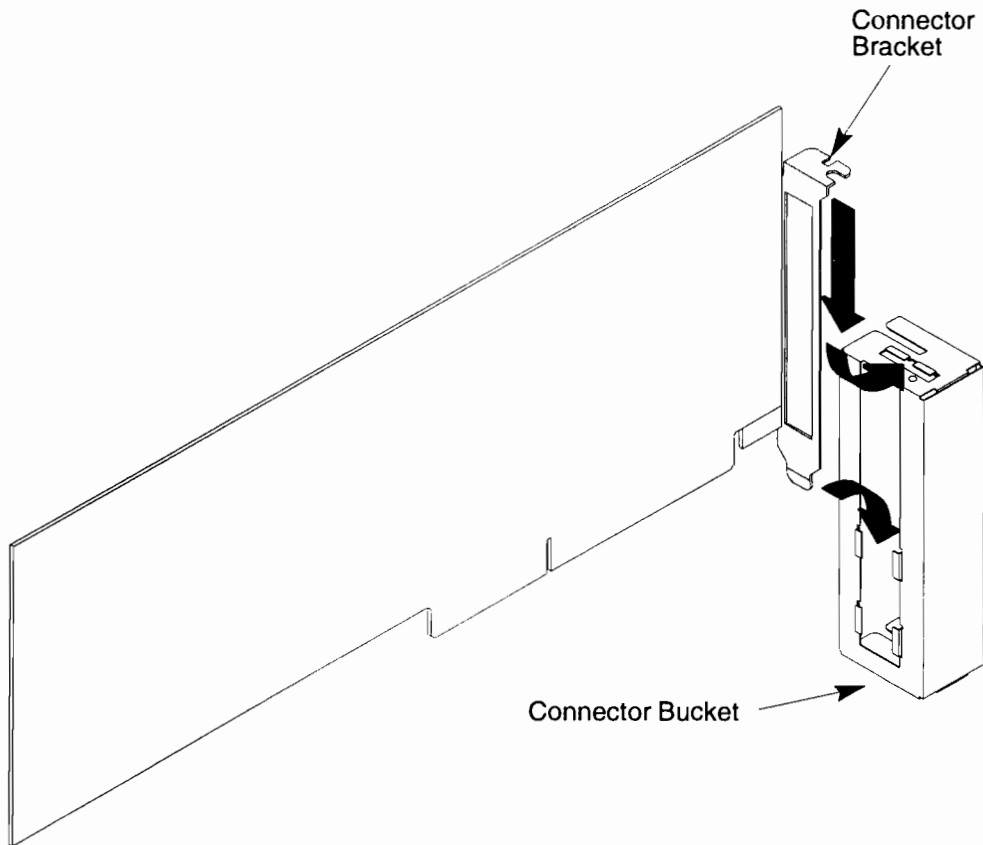

Figure B-14. Installing the Connector Bucket
5. Locate the EISA board you wish to install. Slide the connector bucket onto the EISA board connector bracket as shown in Figure B-14. Insert the board's connector bracket under the tabs on the face of the bucket. Then slide the top of the connector bracket under the tabs on the top of the bucket.